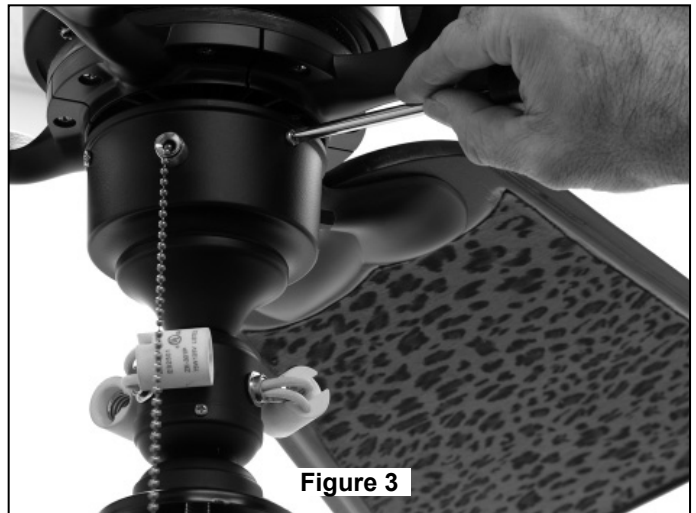

Figure 3
7. Route wires through opening in Canopy. Position Canopy on fan shown with open side facing up. (Figure 3)
8. Reinstall the Hanger Ball (Figure 3) on the Downrod as follows. Route the three 80" wires through the Hanger Ball. Position the Pin through the two holes in the Downrod and align the Hanger Ball so the Pin is captured in the groove in the top of the Hanger Ball. Pull the Hanger Ball up tight against the pin. **Securely tighten the setscrew in the Hanger Ball. A loose setscrew could create fan wobble.**
10. Slide the Motor Coupling Cover down until it touches the top of the Housing. (Figure 3)
3. Carefully lift the fan and seat the downrod/hanger ball assembly on the hanger bracket that was just attached to the outlet box (Figure 3). Be sure the groove in the ball is lined up with tab on the hanger bracket (Figure 2).